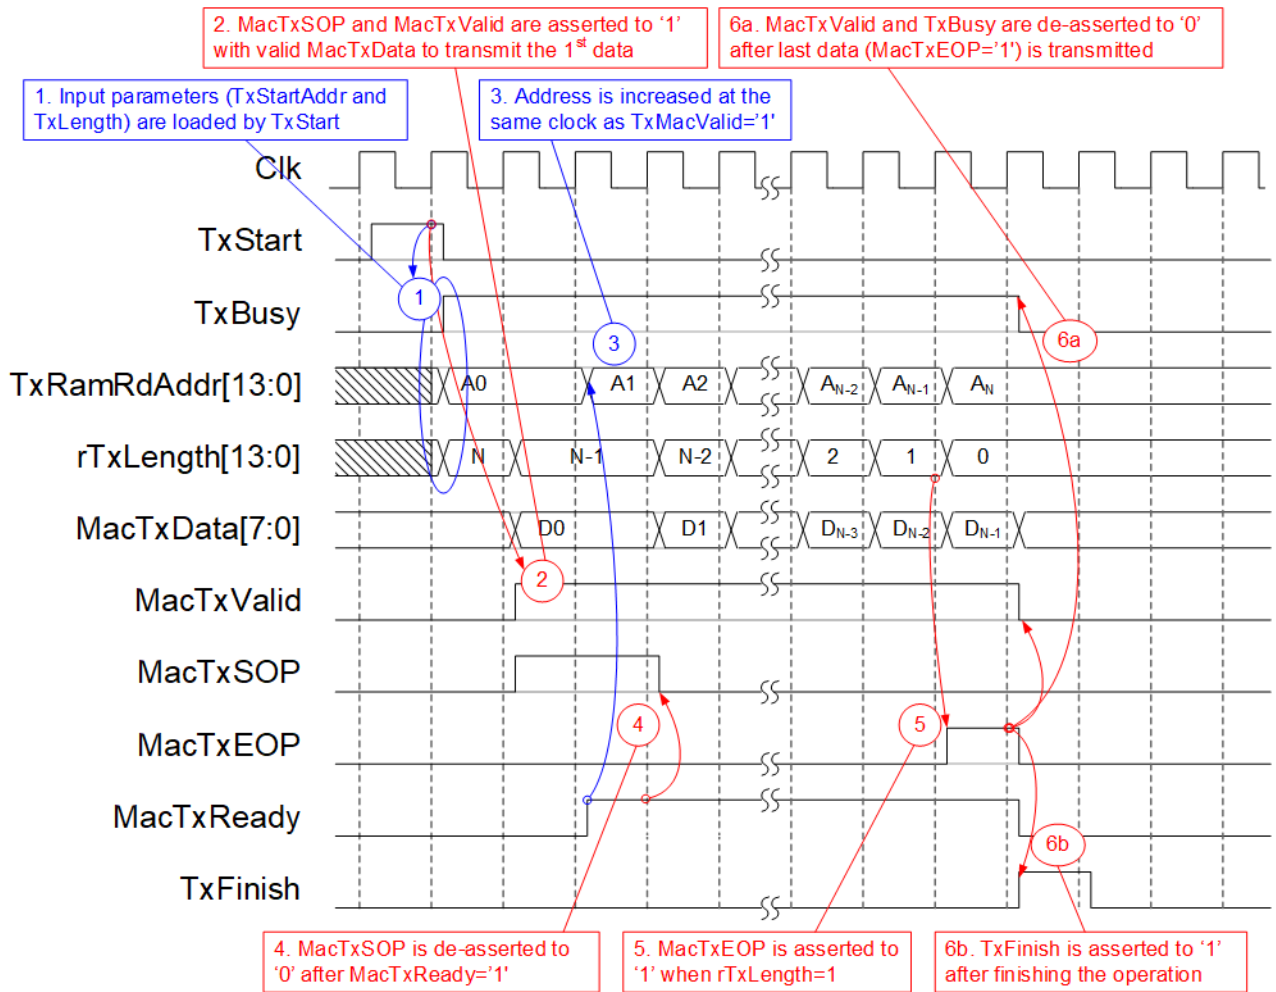

Figure 2-4 Timing diagram of TxEMAC
- Timing diagram of TxEMAC for transmitting the packet to EMAC is shown in Figure 2-4.
- (1) TxStartAddr is loaded to TxRamRdAddr and TxLength is loaded to rTxLength when TxStart is asserted to '1' to begin data packet transmission.
- (2) In the next two-clock cycle after TxStart is asserted to '1', MacTxData which is read data output from TxRAM is valid for transmission. In this clock, MacTxValid and MacTxSOP are asserted to '1' to send the 1st data to EMAC.
- (3) At the same clock as MacTxReady asserted to '1', TxRamRdAddr is increased to the next value to read the next data from TxRAM.
- (4) The next data (D1) is valid on the bus to send the 2nd data and MacTxSOP is de-asserted to '0'. Read data from TxRAM is forwarded to EMAC continuously.
- (5) The last data is read from TxRAM when rTxLength is equal to '1'. So, MacTxEOP is asserted to '1' to send the end of packet signal.
- (6) MacTxValid, MacTxEOP, and TxBusy are de-asserted to '0' after the last data is transmitted, detected by MacTxEOP='1' and MacTxReady='1'. In the same clock, TxFinish is asserted to '1' for one clock cycle to be interrupt signal for CPU. CPU can detect that the operation is finished.